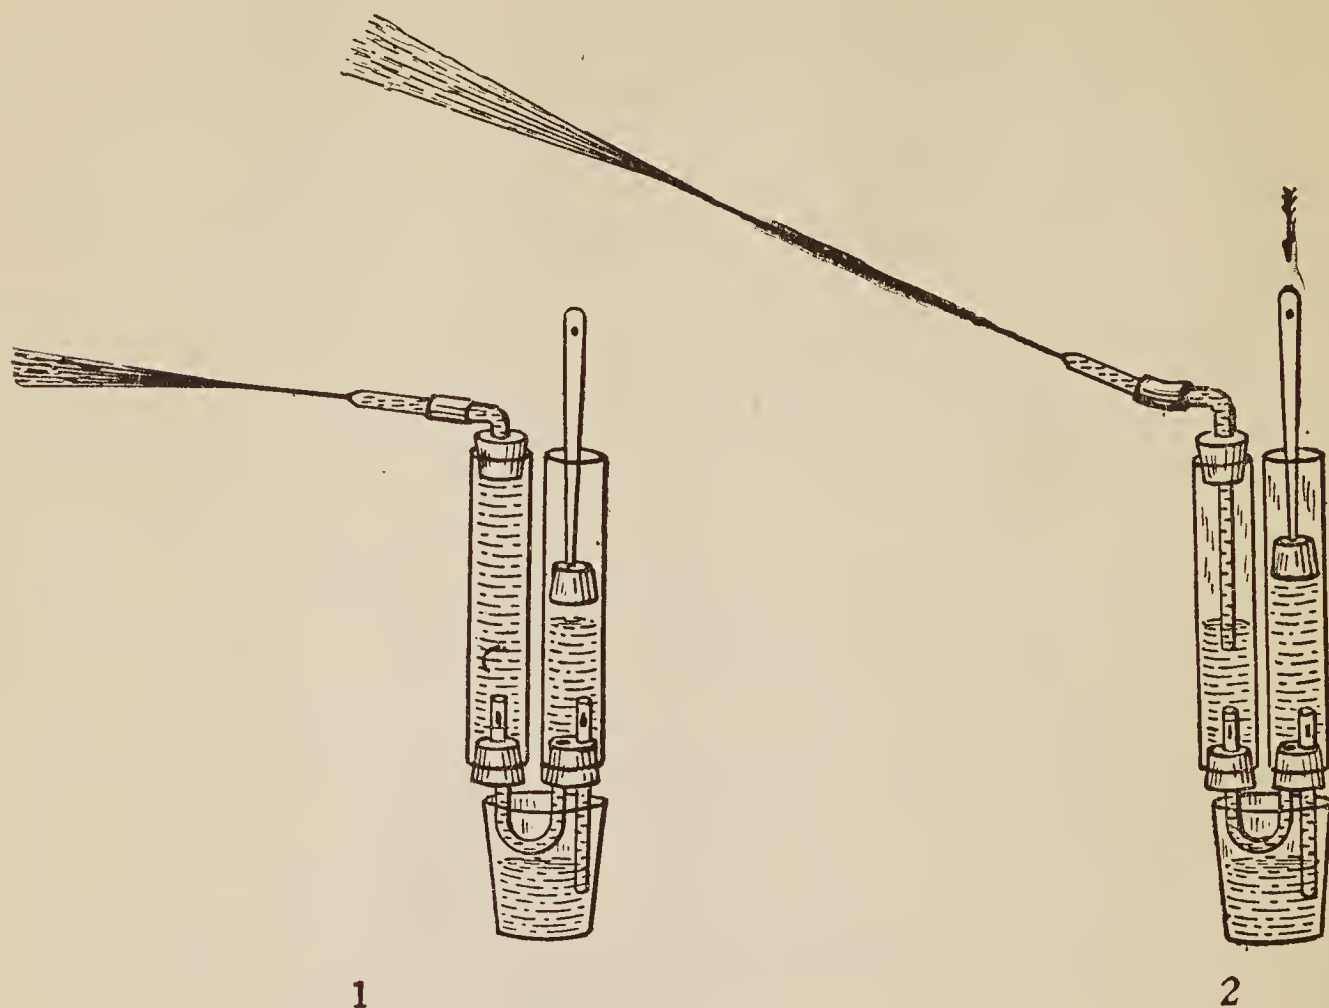

Fig. 66.—The Force Pump.
Arrange the apparatus as shown in (1), Fig. 66. Soap the plunger, place the suction pipe in a tumbler of water, pour a little water above the plunger to make sure it is air tight; and move the plunger up and down.
Make an air chamber in the side tube by inserting a short narrow glass tube below the upper stopper, (2), Fig. 66.
The game here is to see who can force the water to the greatest height and to the greatest distance. Tie the stoppers in with cord and stretched rubber bands. Use the apparatus shown in (2) Fig. 66.